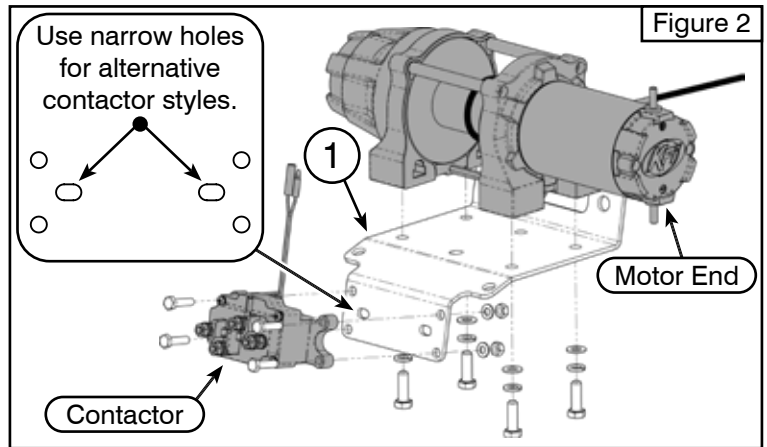

Figure 2
2. Attach the winch contactor to the winch mount bracket (1) using the hardware supplied with the winch. Connect the winch and battery wires to the contactor now for easier access. See **Figure 2**.
3. **IMPORTANT:** Loosely place the winch mount bracket (1) onto the machine's frame before attaching the winch. Then, slide the winch into position and secure it using the winch bolts provided with the winch. The motor end of the winch should be on the passenger side of the machine. See **Figures 2, 3, and 5**.
11. The contactor can be attached to the mount (As shown in Step 2) or relocated as needed. See **Figure 2**.